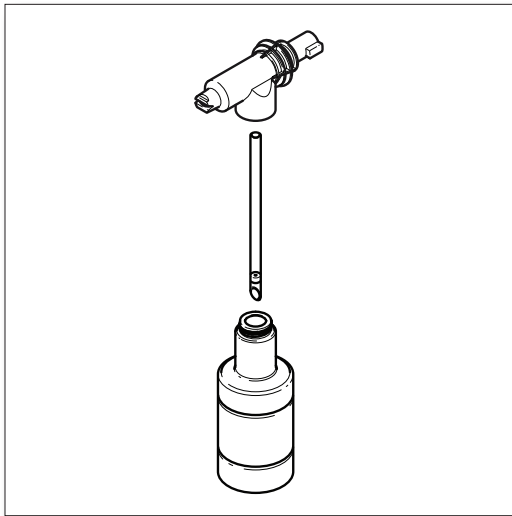
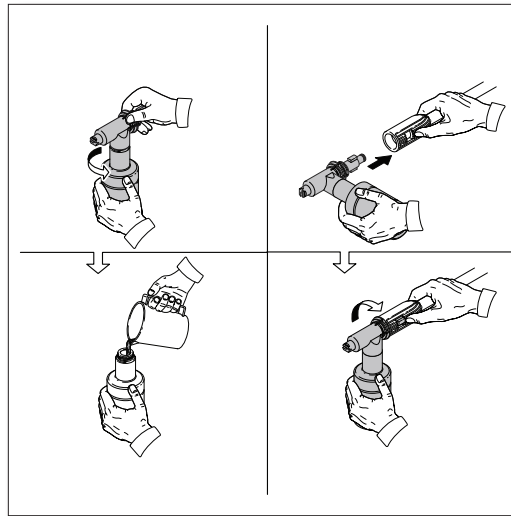

Fig. 11
Fig. 12
- When using the detergent bottle, fill it with a properly formulated detergent or cleaner with a water ratio according to instructions on the container (**Fig. 11**). The detergent bottles comes with a straw which is filled into the screw-on top. If you do not see the straw, look inside the bottle and attach it to the screw-on top. (**Fig. 12**)